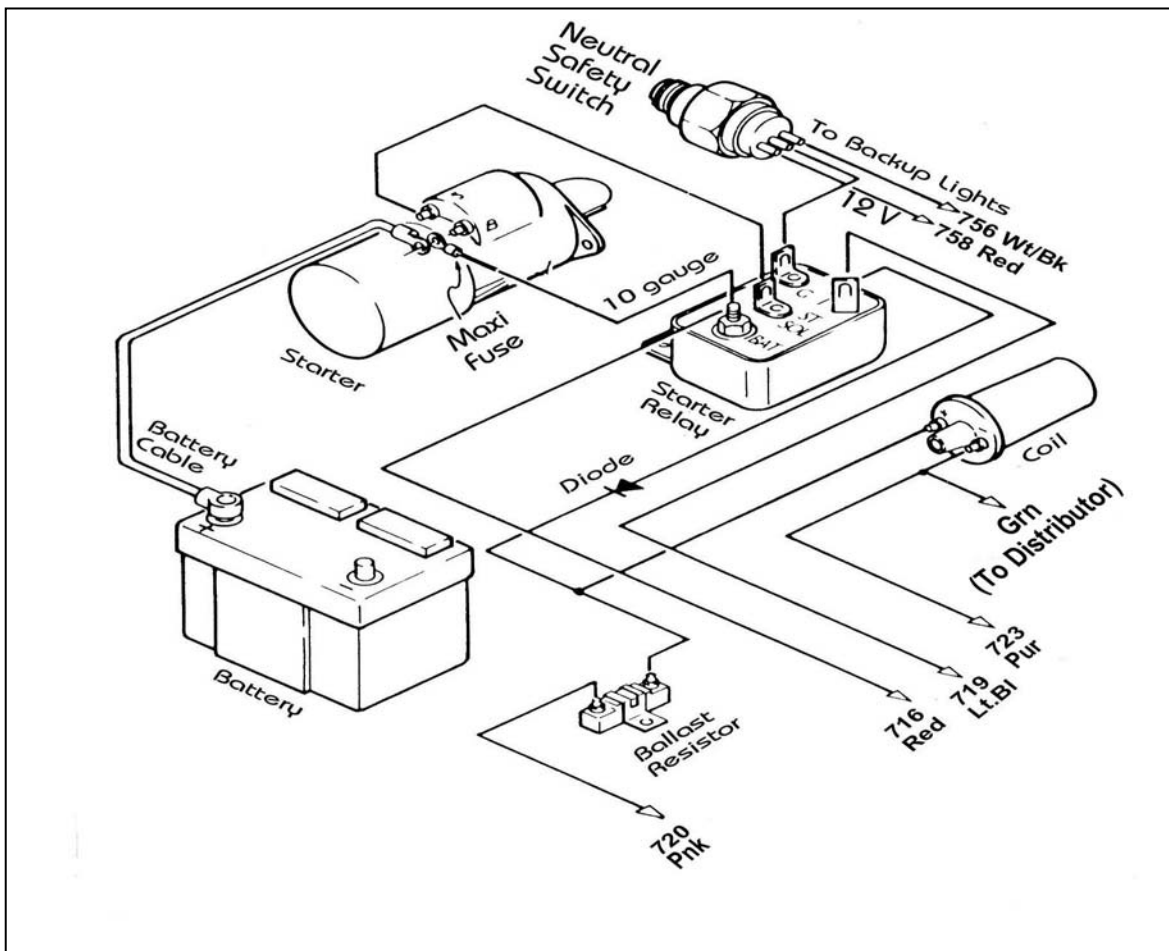

Figure 11.2 Mopar Ignition (Start/Run) System
11.2 Mopar Ignition (Start/Run) System. See Figure 11.2.
- 11.2.2** With crimping tool, attach the Maxi-Fuse (**Figure 8.3**) onto remaining length of red 10-gauge wire. **DO NOT OMIT IT!** Connect this wire from the Starter Relay Battery terminal to the Starter Motor Battery terminal, as shown in **Figure 11.2**. **USE ONLY 10-GAUGE WIRE.**
- 11.2.4** Connect a 14-gauge wire from the Starter Relay Ground (G) terminal to the center terminal of the transmission mounted Neutral Safety Switch. Older Mopar neutral safety switches have only one terminal. On newer switches, the two outside terminals are for backup lights. Use existing wiring to connect these two terminals as shown in **Figure 11.2**.
- 11.2.7 Connect a 14-gauge wire from the Starter Relay Ignition (I) terminal to the ignition coil side of the Ballast Resistor. This wire serves as a Ballast Resistor BYPASS during engine starting. You must add a diode (8-amp min., 100 PIV) to this wire as shown in **Figure 11.2**. If you are not using a Ballast Resistor, do not connect this wire.